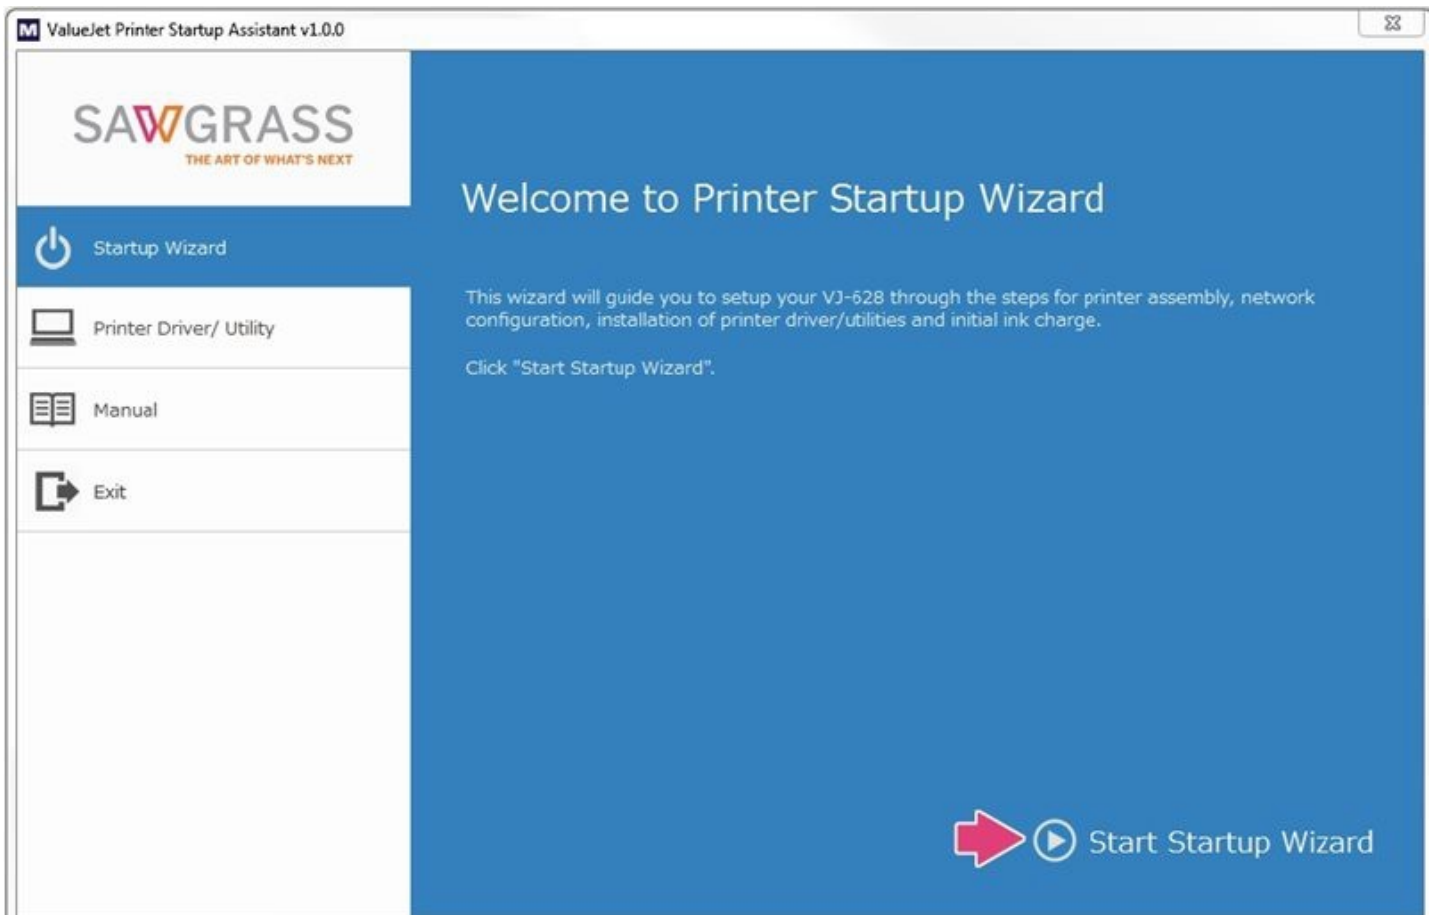

Figure 15
2. Select **Start Startup Wizard**. See Figure 15.